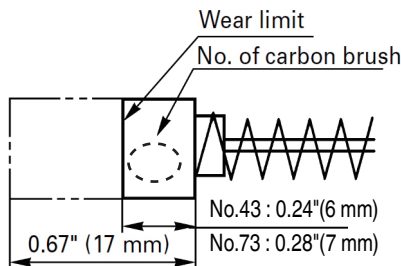

Fig. 10
4. Inspecting the carbon brushes: (Fig. 10)